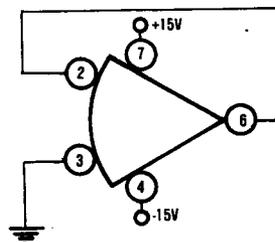

FIGURE 5. Test Circuit, Burn-in and Operating Life Test.
- (1) Test condition B
- (2) Test circuit is Figure 5 herein
- (3)  $T_A = +125^\circ\text{C}$  minimum
- (4) Test duration is 160 hours minimum
- (1) Test condition D
- (4) Test duration is 1000 hours minimum